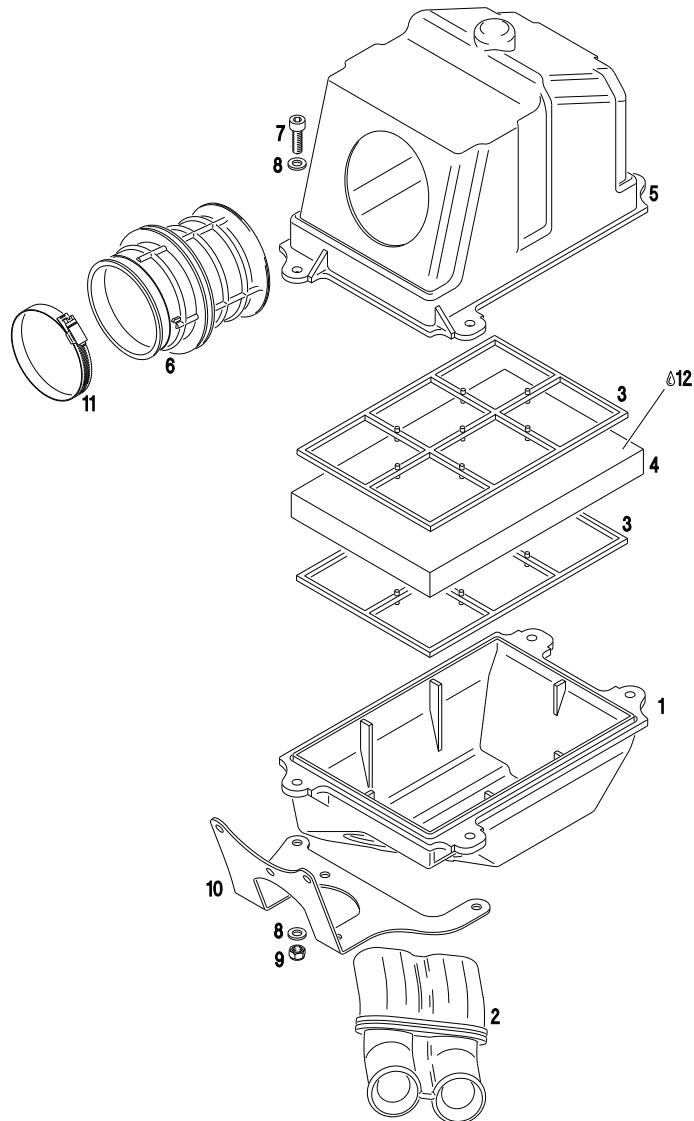

Fig. 9
- ➔ Attach the fuel pump with the two supplied Allen screws M6 x 20 and locknuts on the underside of the bracket (10, fig. 9), so that the fitting for the impulse line (1) points downwards and the fuel supply line (2) (arrow on pump housing) points towards the driver's seat.
- ➔ Cut off two pieces from the supplied fuel hose and fit one each on the lower impulse fitting (1) and side outlet connection (3) (arrow on pump housing).
- ➔ Then attach the bracket (10, fig. 9) on the cylinder utilizing the three lower screws of the carburetor socket. Tightening torque 6 Nm / 53 in lb.
- ➔ Establish connection between outlet on fuel tank and inlet (2) on the fuel pump.
- ➔ Install rubber intake pipe (2) in a horizontal position in the bottom half (1) of intake silencer so that the rounded intake openings point outwards.
- ➔ Fit the carburetor socket (6) into the top half of silencer (5) so that the arrow on the socket points towards the carburetor.
- ➔ Apply common motoroil (12) on the filter mat (4) and squeeze out surplus oil afterwards.
- ➔ Assemble the silencer components as shown (fig. 9) and join the two silencer halves with the supplied Allen screws, washers, locknuts and support bracket (10).
- ◆ **Note:** On the bottom half of the intake silencer (1) part of the support lug rib on the longitudinal side of the silencer has to be cut off with a knife so that the support bracket can rest on the support lug.
- ➔ Attach the intake silencer with the supplied hose clamps (11) on the carburetor.
- ◆ **Note:** The carburetor socket (6) is asymmetrical and can be turned so that the best possible position for maximum leg clearance can be achieved.